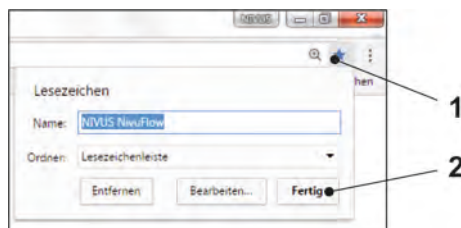

Fig. 31-25 Set up favourites
7. To create a browser favourite (for direct access) click the "Favourites" star (Fig. 31-25 no. 1, example here Google Chrome) and confirm with "Finished" (Fig. 31-25 no. 2).